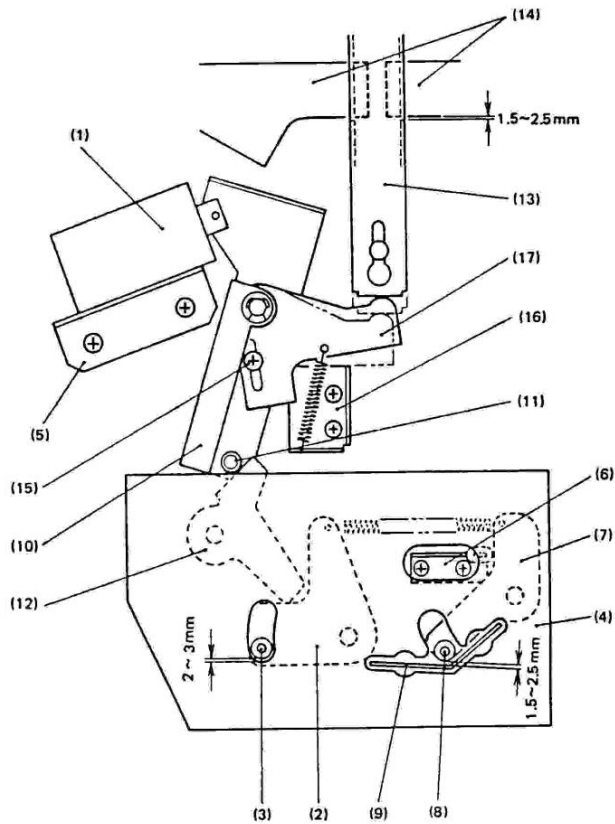

Fig. 5.6
- NOTE: a) Referring to Fig. 5.6, loosen the two screws holding Bracket Stopper (16), shift the Bracket Stopper downward, and tighten the two screws previously loosened.
a) Referring to Fig. 5.6, with the solenoid (1) plunger bottomed, the solenoid bracket (5) position is adjusted so that the gap between the rubber sleeve on the lifter pin (3) and the lower part of the perpendicular hole in the base guide (4) is 2 ~ 3mm.
b) With the plunger still bottomed as before, the lifter stopper (6) is moved left or right so that the gap between the rubber sleeve on the lifter pin (8) on the lifter arm (7) and the shield plate (9) is 1.5 ~ 2.5mm.
c) With the plunger of solenoid (1) bottomed, push Lever (17) upward by 5mm, then tighten screw (15).